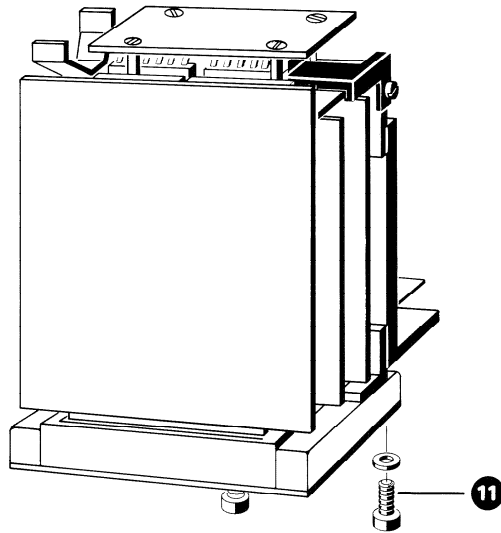

Fig. 13.3.-1
- Remove mechanical counter by loosening the two screws as shown in Fig. 13.3.-1 (11) below.